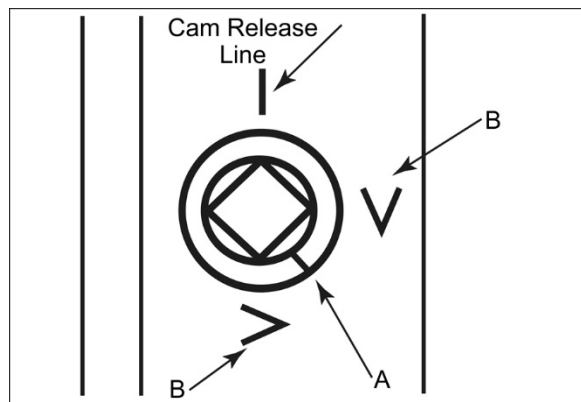

Figure 6-5
1. Support the chuck while turning three camlocks 1/4-turn counterclockwise using the chuck wrench from toolbox. See Figure 6-5. Line up the two marks for removal.
5. Lift chuck up to spindle nose and press onto spindle. Tighten in place by turning each cam lock 1/4-turn clockwise. The index mark (A, Figure 6-5) on camlock should be between the two indicator arrows (B) when tight, as shown in Figure 6-5.
- If index mark (A) is not between the two arrows, i.e. the cam turns *beyond* the indicator arrows, then remove chuck and turn camlock stud IN one full turn.